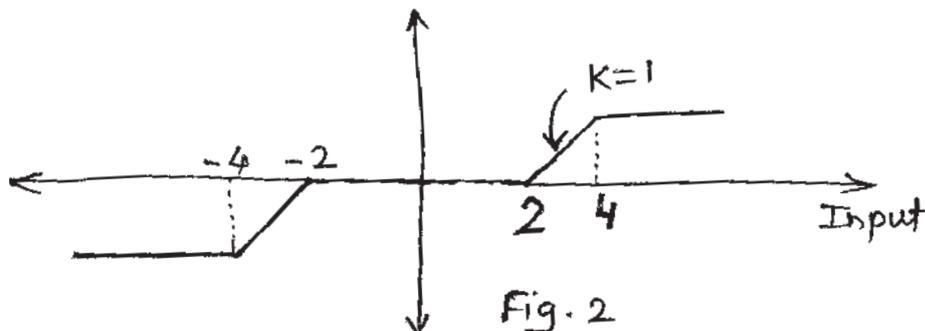

Fig. 2
- Q2)** a) Find the describing function for the Nonlinear system having characteristics as shown in figure 2. [12]